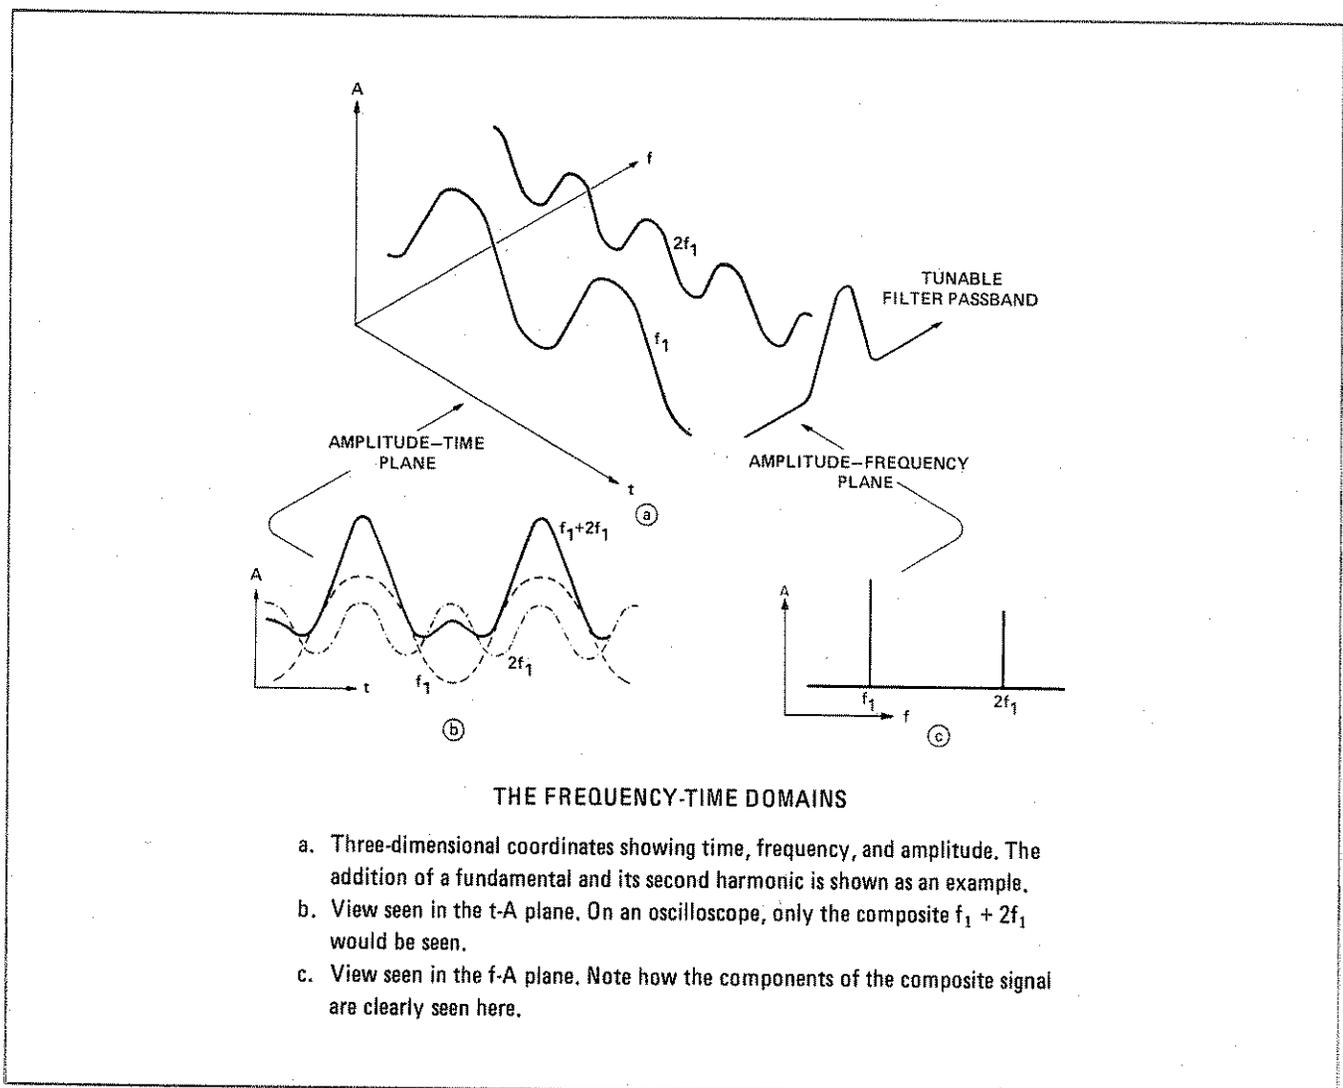

Figure 1. Frequency and Time Domain
The spectrum analyzer is a receiver that displays signals in the frequency domain. The CRT on the analyzer displays signal amplitude (A) on the vertical axis and frequency (f) on the horizontal axis. A method of visualizing how a spectrum analyzer views the frequency domain is to picture a tunable bandpass filter that scans the frequency axis (see Figure 1). At any instant in time, the analyzer views only the signal it is tuned to receive, rejecting all others. In this way, all the individual